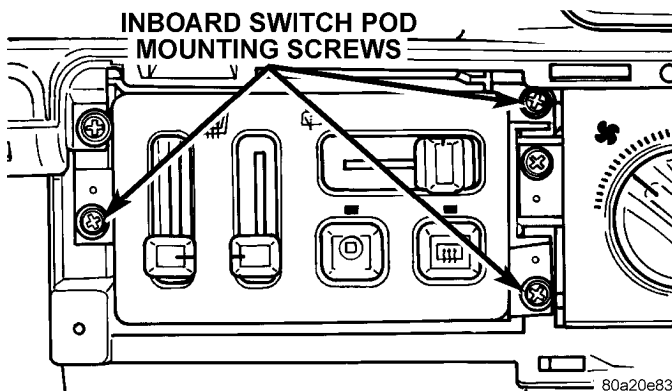

Fig. 10 Inboard Switch Pod Remove/Install
(1) Remove the cluster bezel from the instrument panel. See Cluster Bezel in this group for the procedures.
(2) Remove the two screws that secure the inboard switch pod to the instrument panel (Fig. 10).